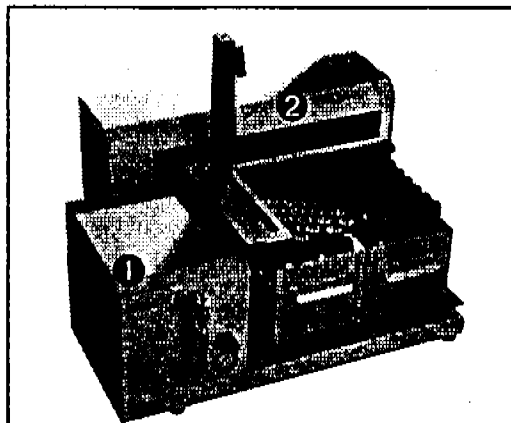

Figure 2.1:
The sample module (❶, Figure 2.1) and the autosampler (❷) compose the AQUATEk 70 Liquid Autosampler system and ship together. Each component is referred to as sample module and autosampler, respectively, throughout the remainder of this user manual and supporting documentation.